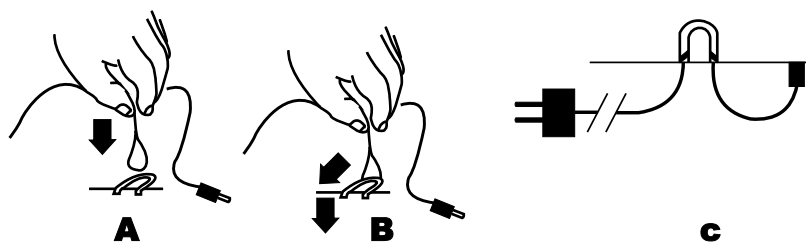

FIGURE 1
- 1.Refer to Figure 1. Turn the receiver over and locate the power cable retainer. Pinch the ac adaptor cord approximately 6 inches from the dc plug, forming a small loop (A). Hold the cord vertical to the retainer and lower the tip of loop into the curved portion of retainer.
- 2.Keeping the cord vertical to the receiver, pull the cord under the tab towards front of the receiver (B), then pull down, locking the cord into the retainer(C).